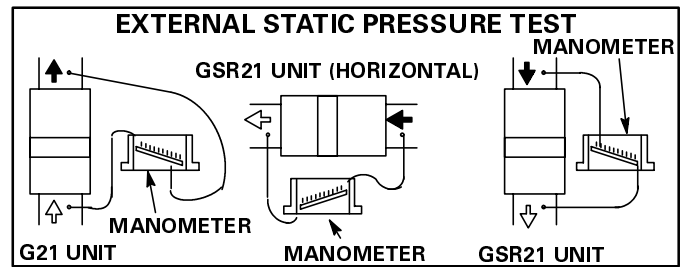

FIGURE 40
- 1 - Measure tap locations as shown in figure 40.